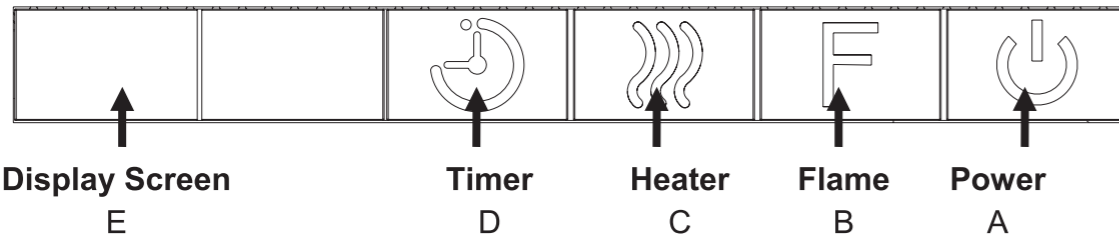

Figure 6
### Power(Figure 6.A):
### Flame(Figure 6.B):
### Heater(Figure 6.C):
Press once to activate the Low Heat Setting (L) , presss the button the Second time to activate the High Heat Setting(H), and the Third time to activate the “Auto” function(A), after that the thermostat starts to work and to setup desired setting before the BLUE indicator light fading away;the highest temperature of thermostat is 95° F and the lowest is 65° F. Once activate the HEATER , the display screen(Figure 6.E), will display the heater setting in using accordingly shortly. You may turn off the HEATER by this button as well.
### Timer(Figure 6.D):
Press once to activate the TIMER. Using the TIMER to have the unit turn off automatically after 30 minutes or up to 9 hours.The display screen(Figure 6.E) will present the setting shortly.